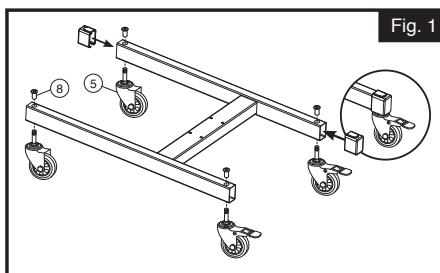

Fig. 1
1. Insert the screws on the 3 in. Casters (5) through the bottom holes in the Base Frame (4). (Fig. 1)
2. Insert the M10 Tube Nuts (8) through the top holes in the base frame and tighten with 6 mm Hex Wrench (12) and 16 mm Wrench (16).
3. Install the base frame end covers onto the ends of the base frame legs and press tightly to lock in place. (Fig. 1)